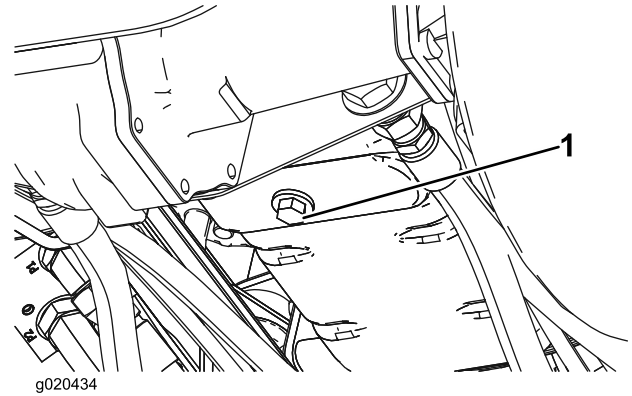

Figure 49
1. Remove the drain plug (Figure 49) and let the oil flow into a drain pan. When all the oil is drained, install the drain plug.